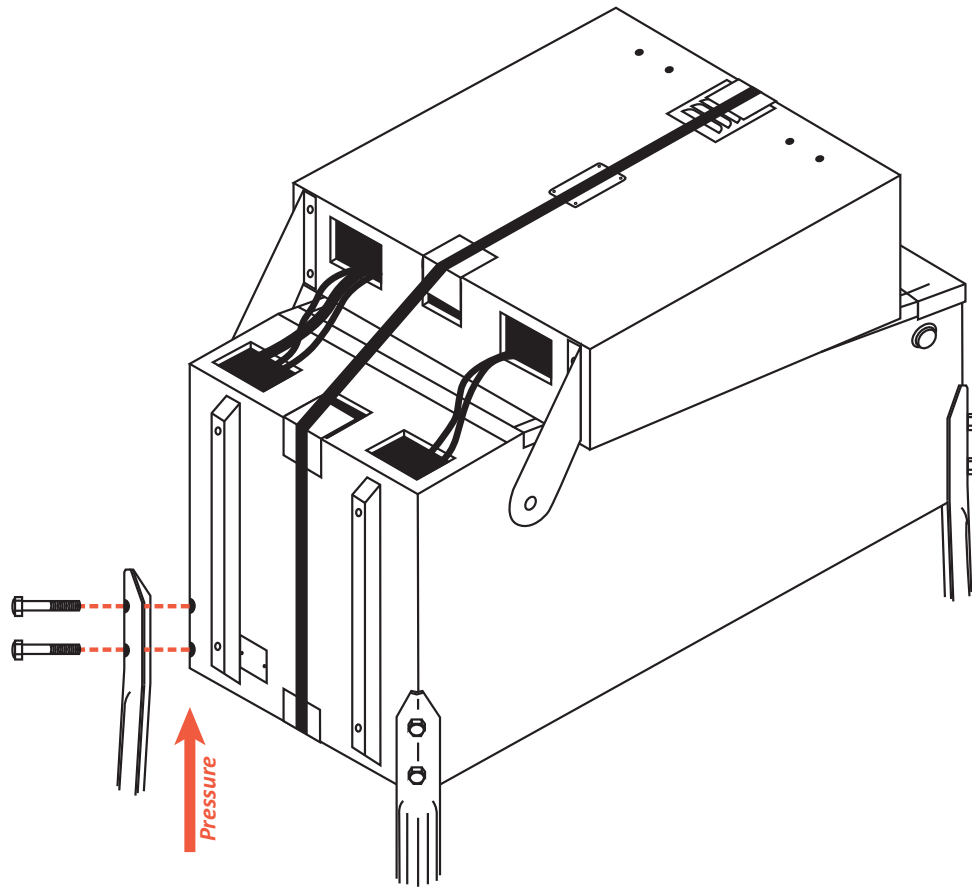

Figure A6. Installing the rear legs.
**6)** With the help of at least one other person, carefully tip the game onto its front legs. Lift the rear of the cabinet and have two people support it or place it on a sturdy support. As with the front legs, attach the two rear legs, using the four remaining acorn-head bolts. Tighten all bolts firmly, while maintaining upward pressure on the legs (see figure A6). Lower the game onto its legs.